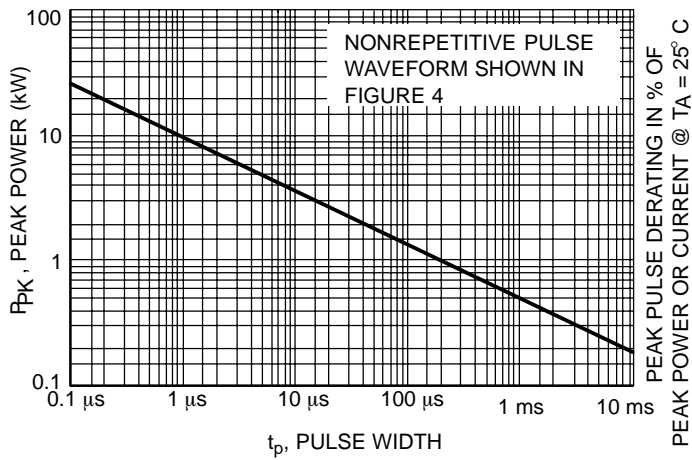
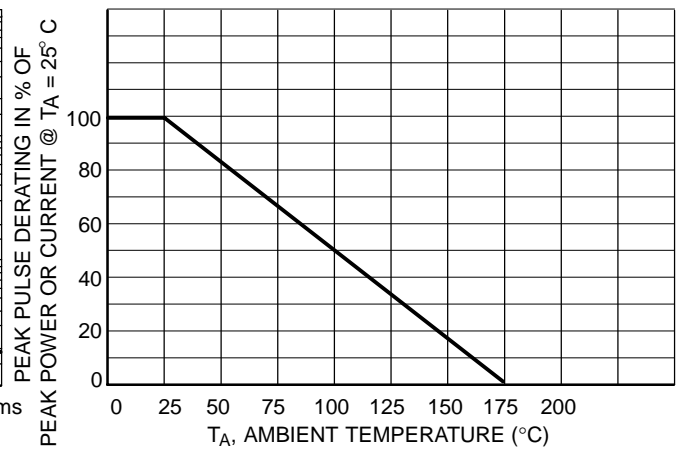
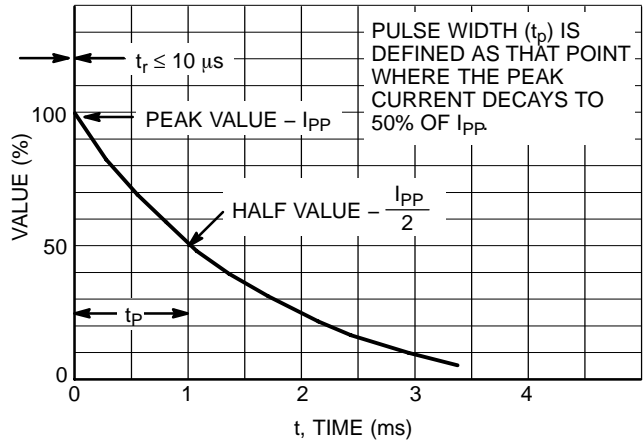

Figure 1. Pulse Rating Curve
Figure 2. Pulse Derating Curve
Figure 4. Pulse Waveform
1. Nonrepetitive current pulse per Figure 4 and derated above  $T_A = 25^\circ\text{C}$  per Figure 2.
5. Surge current waveform per Figure 4 and derate per Figures 1 and 2.